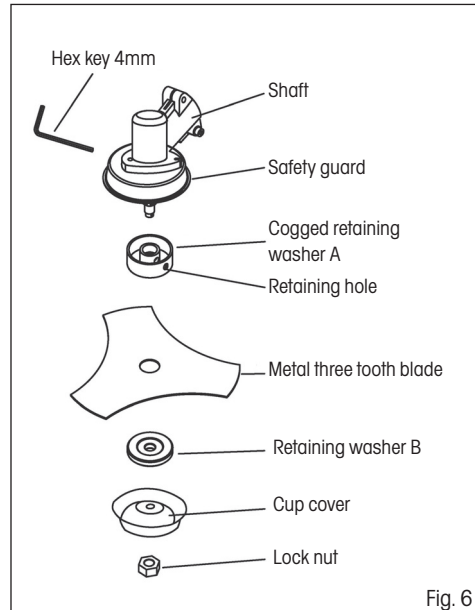

Fig. 6
- ✿ Lock the shaft in place by inserting the 4 mm hex key (see fig. 6). To achieve this, it is necessary to align the hole in the protective guard with the hole in the shaft and insert the hex key. Align the holes by turning the protective guard.